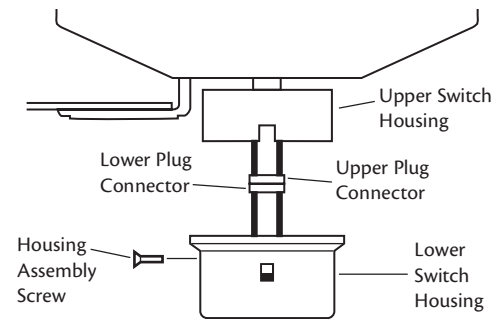

Figure 30 - Connecting the plug connectors
1. Connect the upper plug connector from the motor to the lower plug connector in the lower switch housing assembly. See Figure 30.
2. Place the lower switch housing assembly over the upper switch housing. Align the side screw holes in the upper and lower switch housings. Attach the lower switch housing to the upper switch housing with three #6-32 x 3/8" housing assembly screws. See Figure 30.
1. Connect the upper plug connector from the motor to the lower plug connector in the lower switch housing assembly. See Figure 30